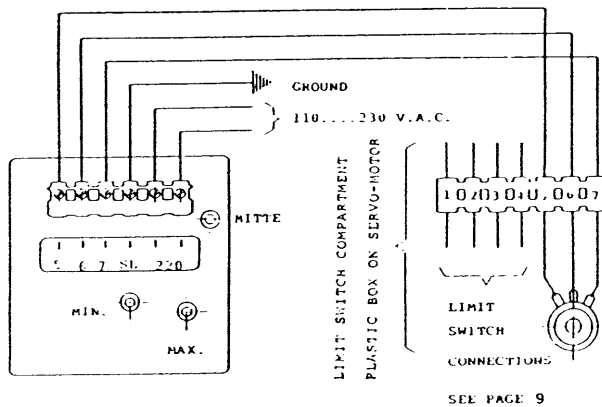

Fig.12.: "PA" Instrumentation
- 1) The instrument has to be connected to the terminal board of the servo-motor (limit switch compartment) as shown in Fig.12.